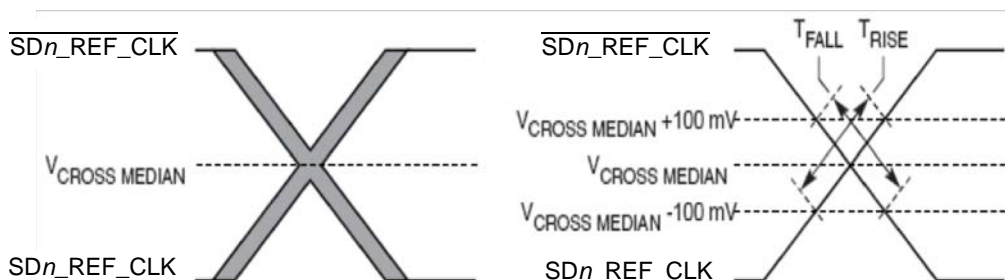

Figure 53. Single-Ended Measurement Points for Rise and Fall Time Matching
4. Matching applies to rising edge rate for $\overline{SDn_REF_CLK}$ and falling edge rate for $\overline{SDn_REF_CLK}$. It is measured using a 200 mV window centered on the median cross point where $\overline{SDn_REF_CLK}$ rising meets $\overline{SDn_REF_CLK}$ falling. The median cross point is used to calculate the voltage thresholds the oscilloscope is to use for the edge rate calculations. The Rise Edge Rate of $\overline{SDn_REF_CLK}$ should be compared to the Fall Edge Rate of $\overline{SDn_REF_CLK}$, the maximum allowed difference should not exceed 20% of the slowest edge rate. See Figure 53.